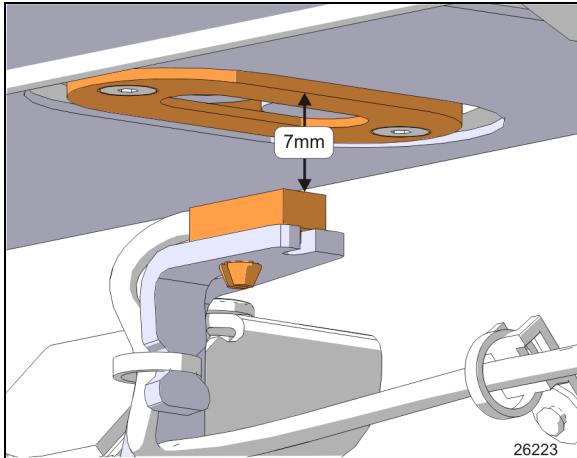

FIGURE 52: SENSOR VERTICAL ADJUSTMENT
- Bring slowly the sensor toward the outside of the vehicle until the LED turns on. When it does, move it 0.079" (2mm) further in the same direction. Adjust vertically to 7mm from magnet support face (Figure 52). Tighten the mounting bracket screws.
from magnet support face (Figure 52). Tighten the mounting bracket screws.